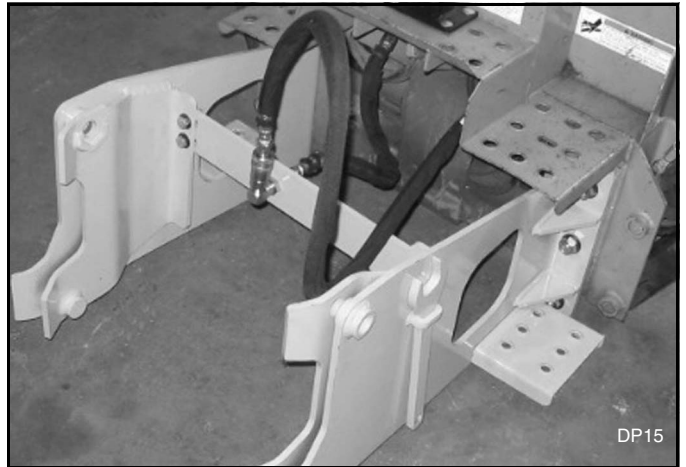

Figure 29. Backhoe Hose Connection, Storage Position (Typical)
**BACKHOE:** Connect IN and OUT quick couplers together to prevent dirt and debris from accumulating in quick couplers. See Figure 29.